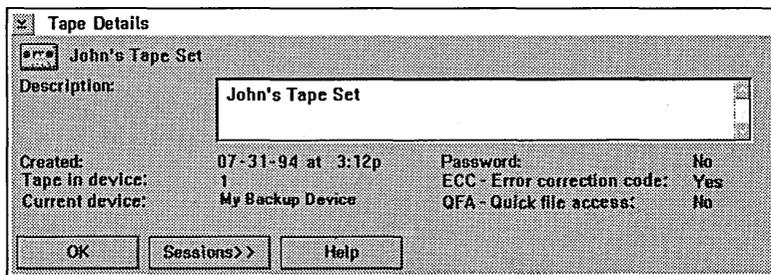

Figure 13-3. Tape Details
- 3 Highlight the tape and click on **Details...** or select **Details** from the **Utilities** menu. The Tape Details window opens, as shown in Figure 13-3.